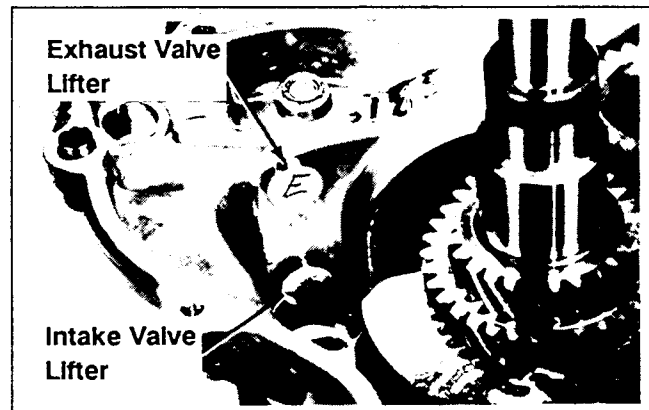

Figure 9-39. Identifying Hydraulic Lifters.
- Mark or identify the hydraulic lifters as either intake or exhaust. See Figure 9-39. Remove the lifters from the crankcase.